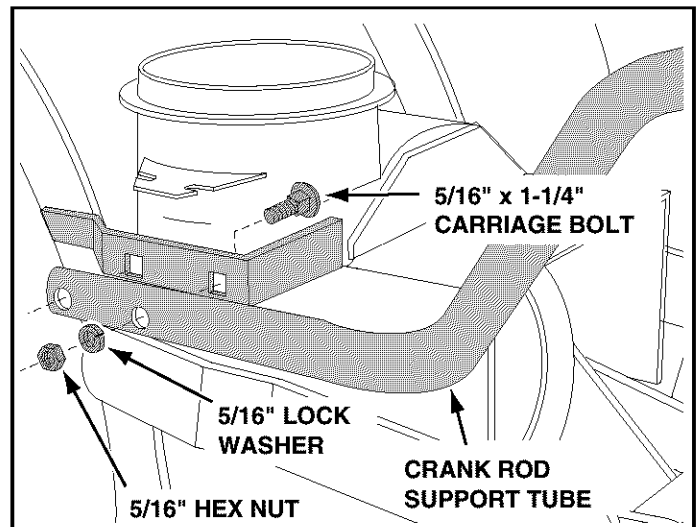

FIGURE 17 LEFT SIDE VIEW
- Assemble the crank rod support tube to the bracket on the left side of the thrower housing using two 5/16" x 1-1/4" carriage bolts, 5/16" lock washers and 5/16" hex nuts. See figure 17.